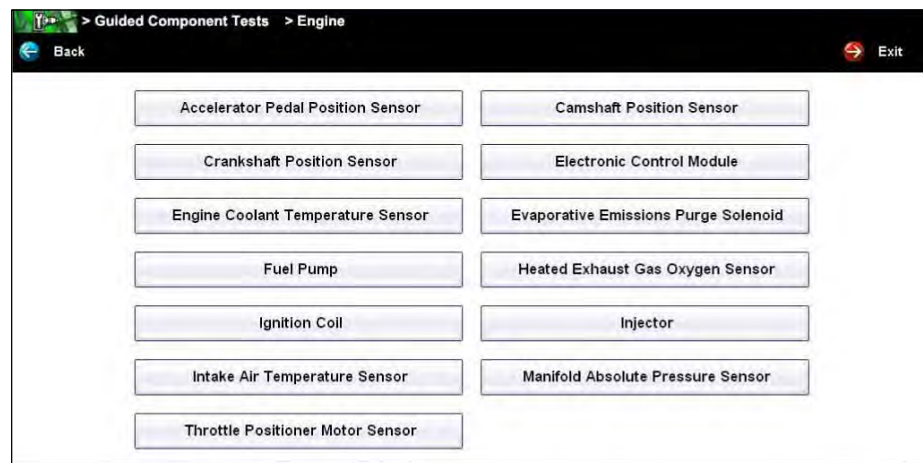

Figure 7-5 Sample available component tests list
8. Select **ENGINE** and a component test menu displays (Figure 7-5).